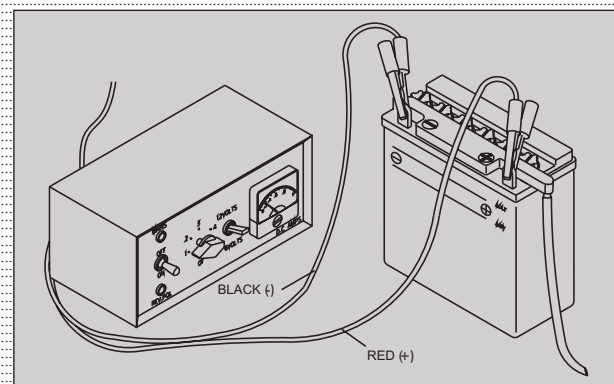

Fig. 5.64
- Incase of single battery, connect negative lead of the battery charger to the '– ve' terminal of the battery assembly and positive lead of the battery charger to '+ ve' terminal of the battery assembly. (Fig. 5.64)